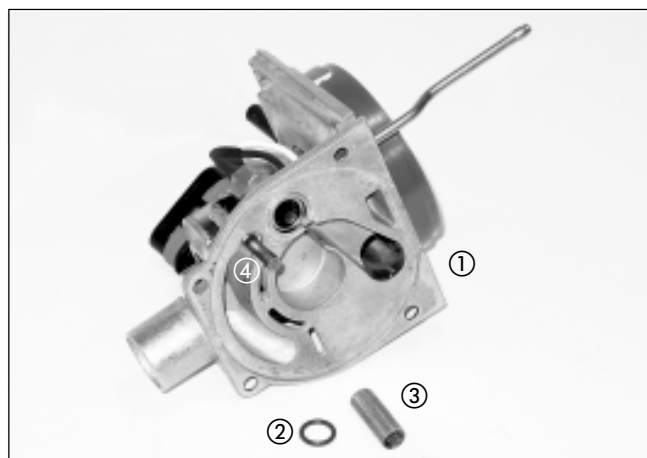

Fig. 7: HYDRONIC B 4 W SC / B 5 W SC / D 4 W SC / D 5 W SC
**Remove plug filter** (fig. 7 and diagram 3)
**Remove socket** (fig. 7 and diagram 3)